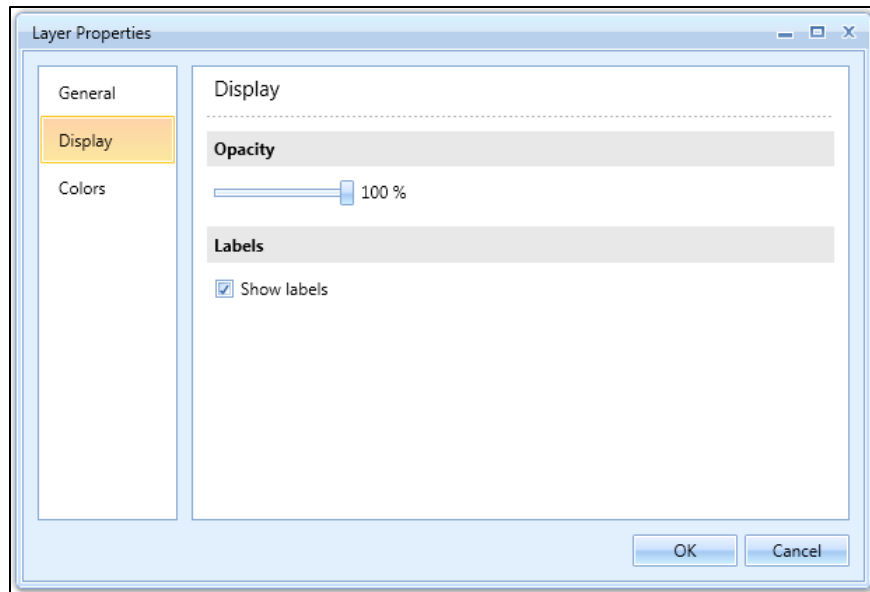

Figure 3-16 Layer Properties Dialog – Display
4. Click *Display* (Figure 3-16).